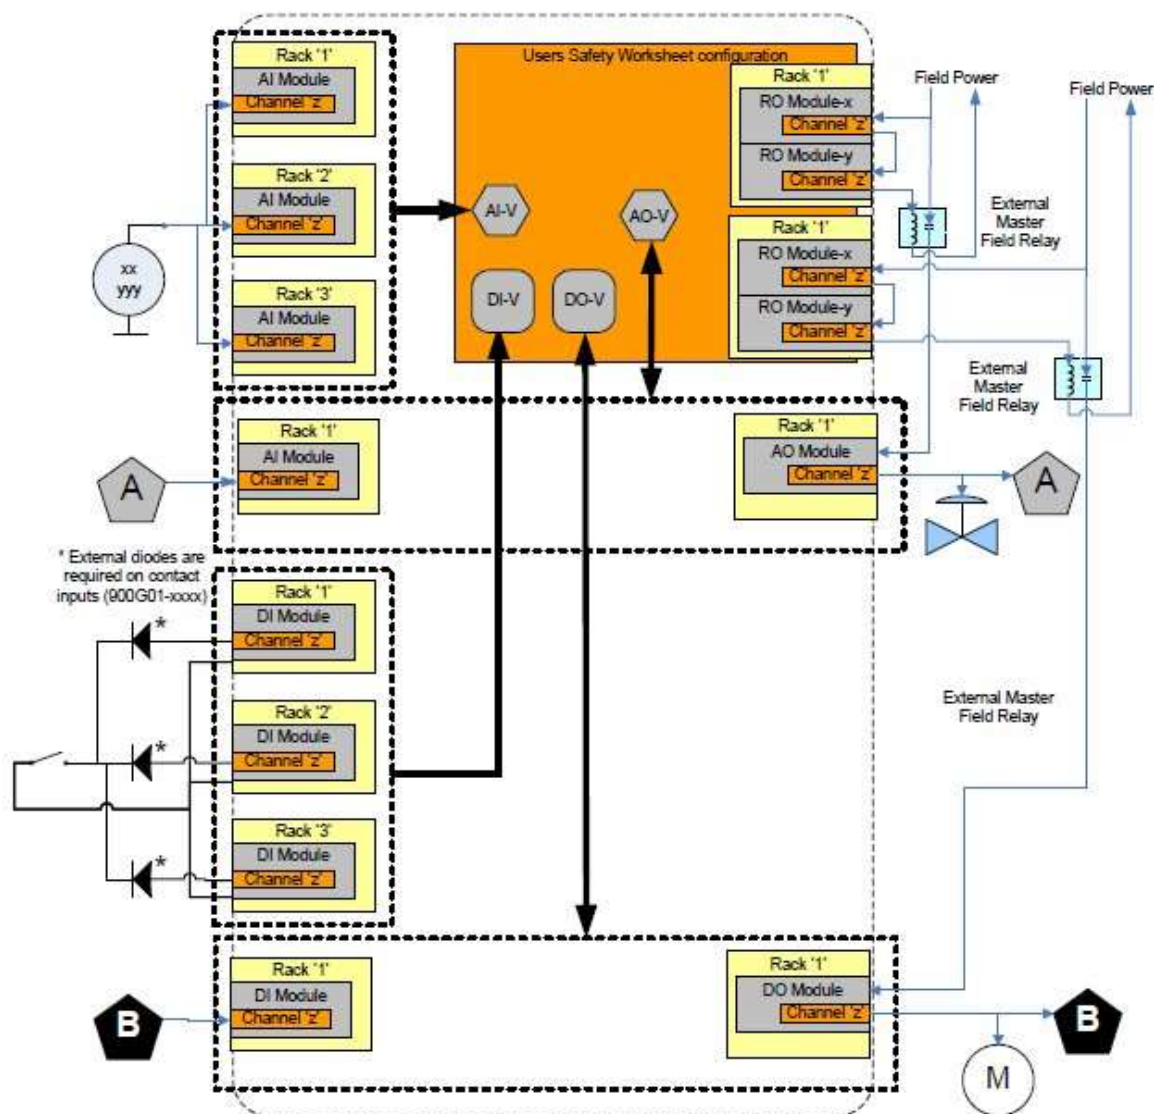
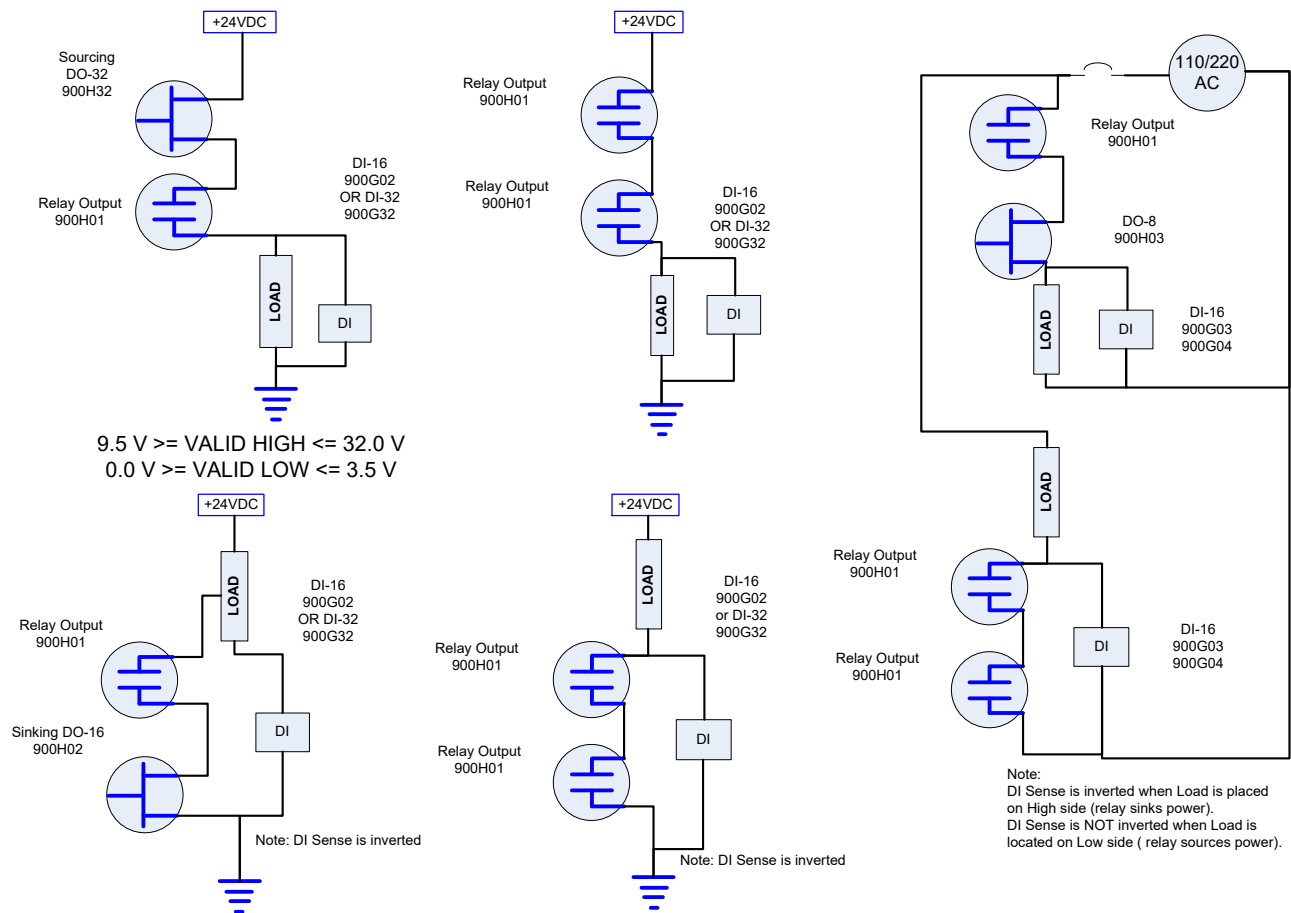
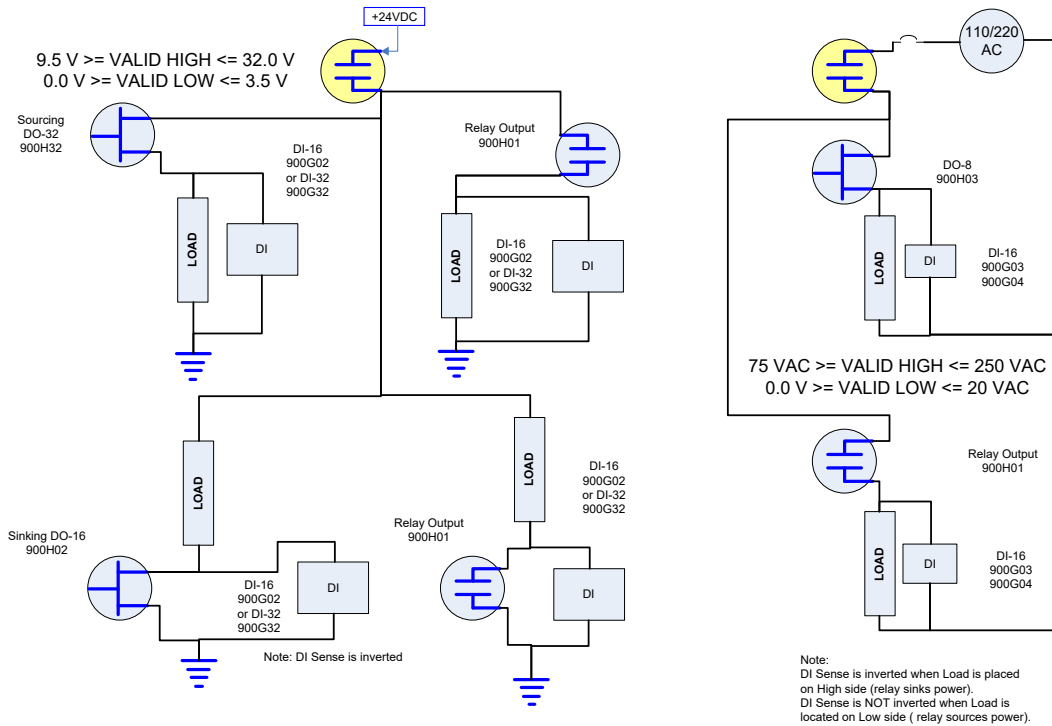
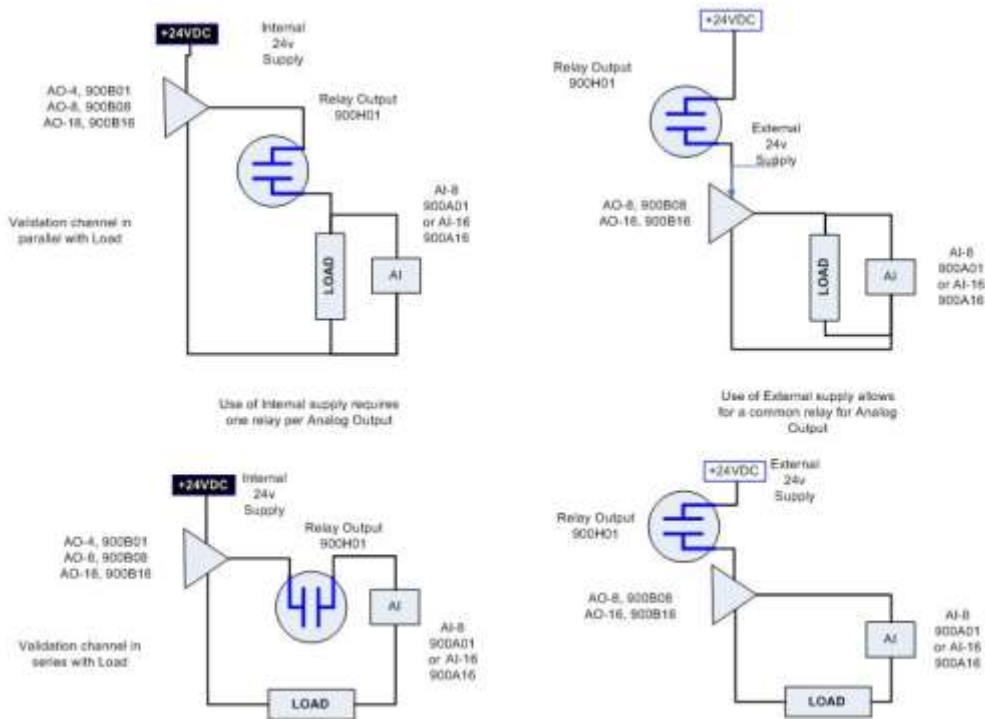

Figure 12 – IO-V function block connections
Figure 13 – Individual Series DO connections
Figure 14 – Common Series DO connections
Figure 15 – Series Relay for Analog Outputs
The external master field relay shown in Figure 12 is further demonstrated in Figure 13 through Figure 15. They demonstrate the connection of the series output relay's NORMALLY OPEN contact to protect against outputs that are stuck "ON". This relay may be added individually as shown in Figure 13 and Figure 15 or common for multiple channel outputs as shown in Figure 14 and Figure 15. The external master field relay must be configured to open when the DO-V or AO-V functions on the safety worksheet indicate a failure with the Fail or VFail pin "ON".
- 2) Verify all Contact inputs contain blocking diodes as shown Figure 12.